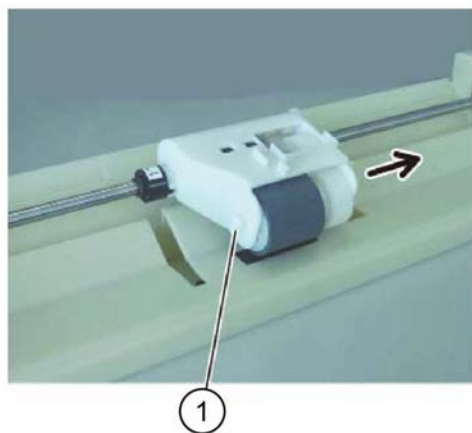

Figure 3 Shaft removal
4. Release the shaft, then remove the shaft in the direction of the arrow, Figure 3.